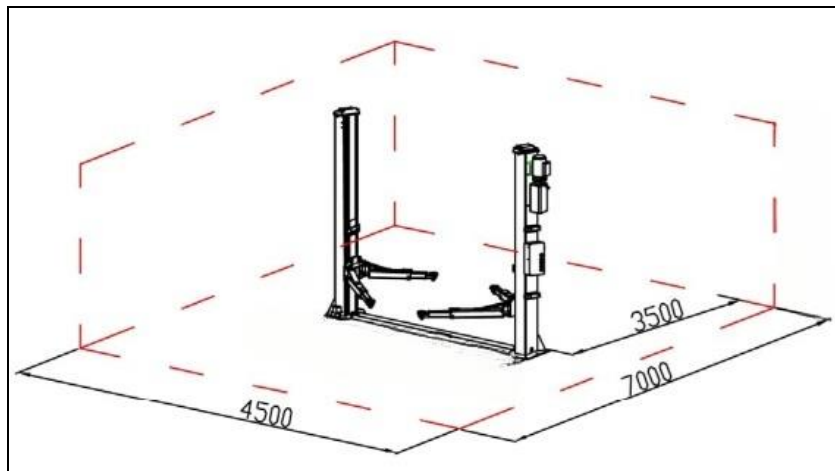

Figure 4
7.1 The equipment shall be installed in a dust-free and contamination-free indoor environment with adequate lighting (with illuminance no less than 100 Lx). The lift column must be installed at specific safety distances from walls, columns, and other equipment, maintaining a minimum clearance of 1000mm from the wall surface. Sufficient space should be reserved both front and rear of the lift to accommodate all vehicles (see Figure 4). Emergency access routes shall be provided with adequate